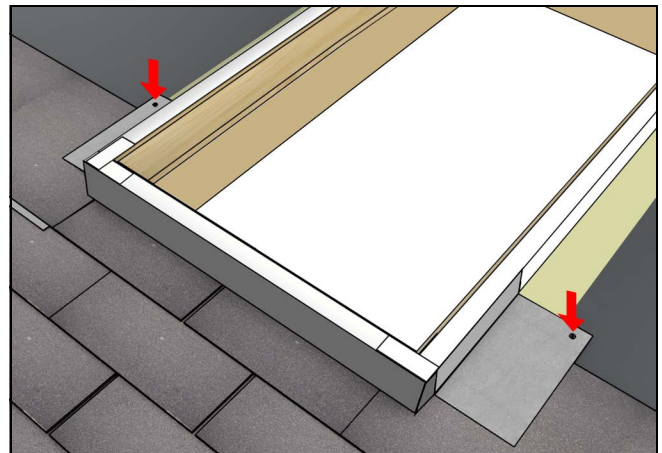
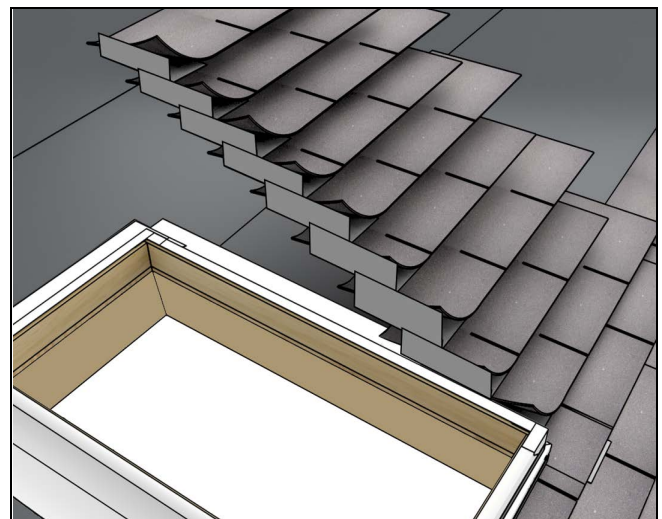

Figure 37
Figure 38
9. Place the second step flashing as shown in Figure 37. *Align with bottom of shingle.* Repeat steps until near the head jamb. See Figure 38.